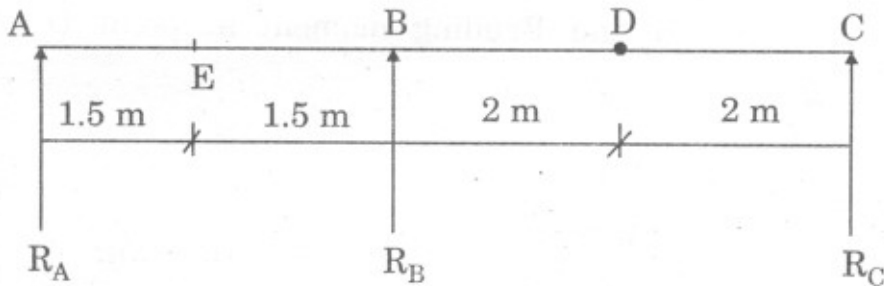

Fig. 15
10. (A) A compound beam ABC has simple supports at A, B and C and internal hinge at D. Draw influence lines diagrams for reaction at A, reaction at B, reaction at C and S.F. and B.M. at E. Refer Fig. 15. [8]